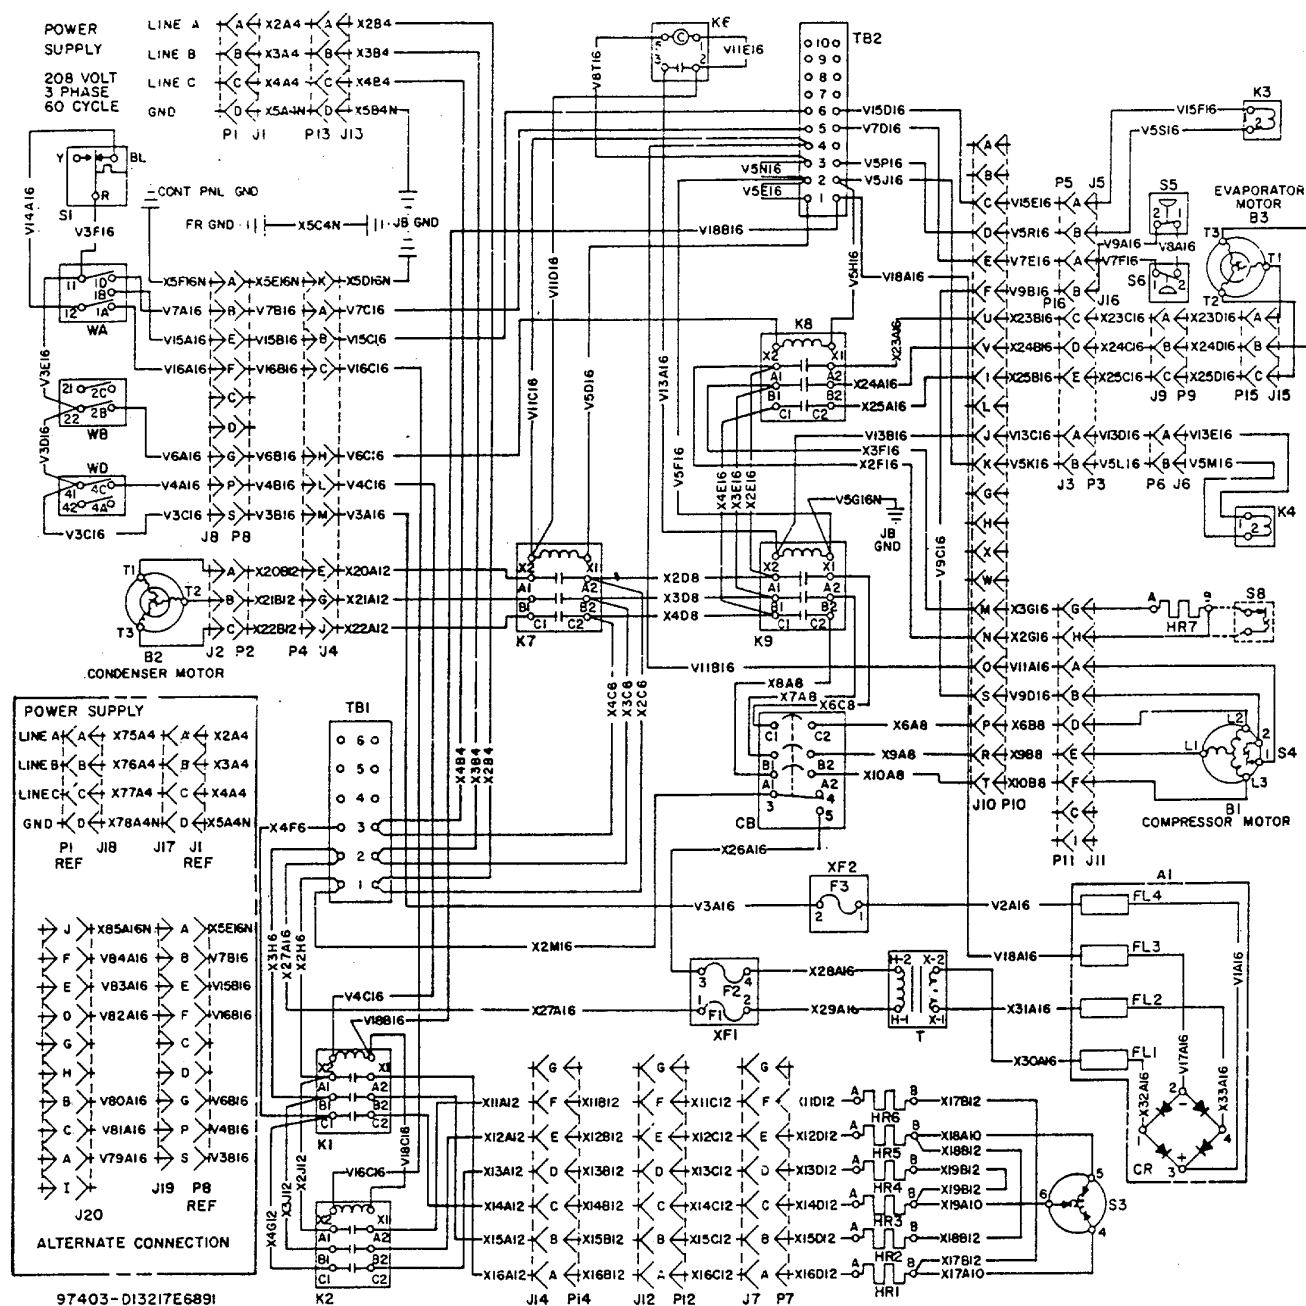

Figure 4-16. Wiring Diagram.
- (1) Form harness to approximate its final configuration in the air conditioner.
- (2) Make connections at each end, as indicated in the wiring diagram (figure 4-16) and wire list (table 4-4).